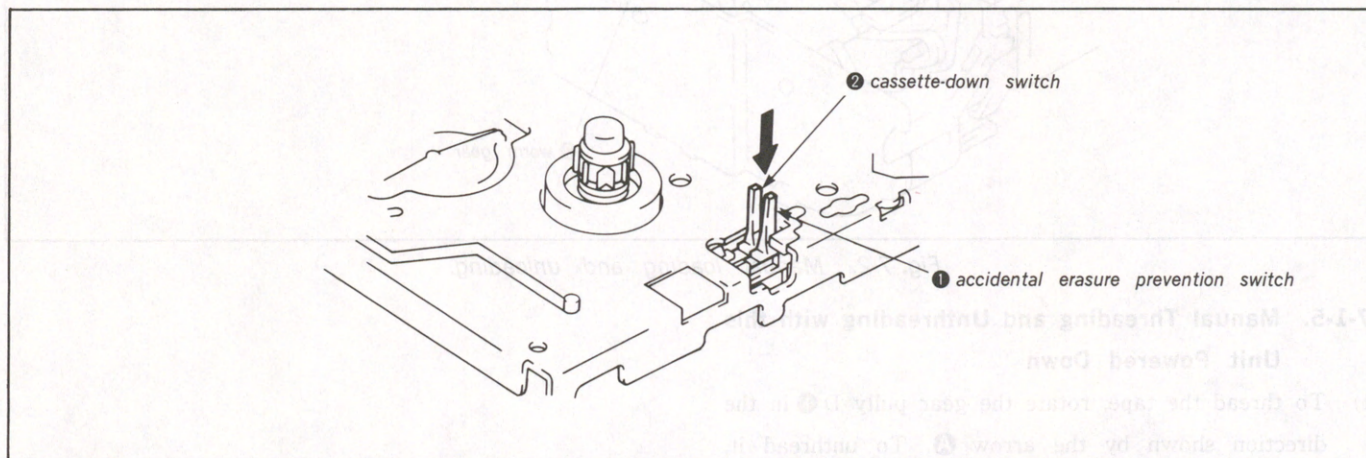

Fig. 7-1. How to thread the tape when the FL cassette compartment ass'y is off.
- 1) Thread the tape as shown in 7-1-1, and press the accidental erasure prevention switch ❶ referring to Fig. 7-1.
- 2) Leaving the accidental erasure prevention switch ❶ pressed, press the recording button.